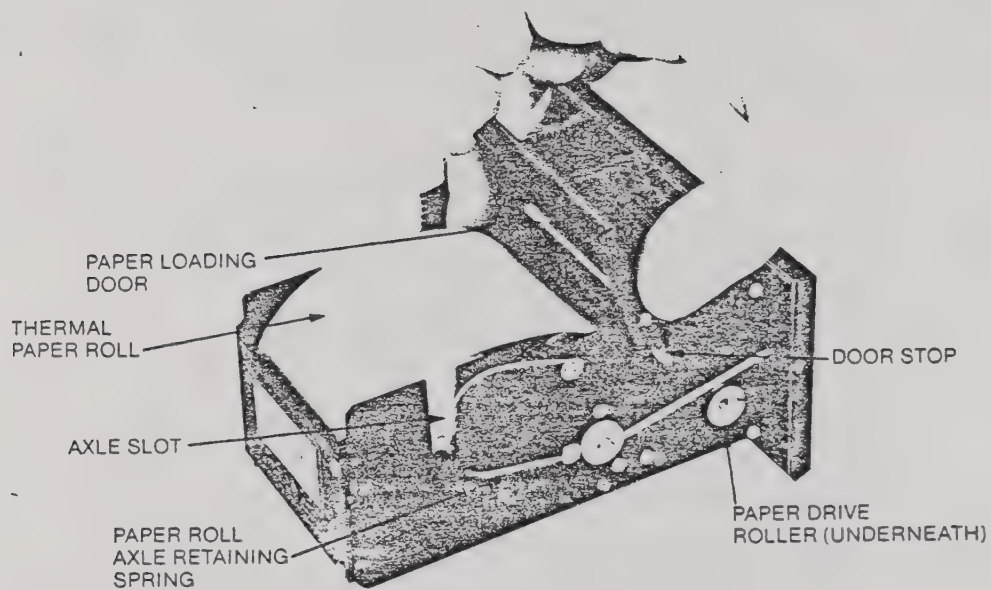

FIGURE 7-1
3. Raise the paper loading door by pulling forward until it stops. This automatically lifts the thermal printhead from the paper drive roller (see Figure 7-1). Remove any paper from a previous roll.
4. Pull the remaining paper backward out from under the printhead. Grasp both ends of the paper roll axle with fingertips and pull straight up out of the printer assembly. The axle will slide past the circular axle retaining spring as shown in Figure 7-1.